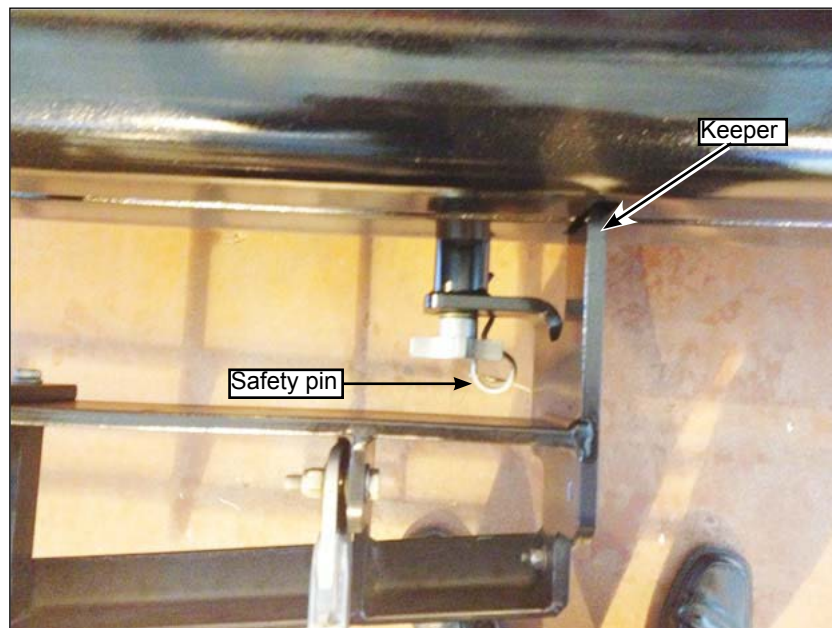

Figure 6 - Remove the Two Safety Pins
- 1.6. Remove the two safety pins on either side of the bike rack retaining screws. Unscrew the retaining screws. The keepers will prevent the bike rack from falling when the retaining screws are removed (see Figure 6).